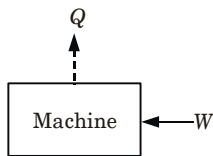

Fig. 1.28.2. The converse of PMM1.
- The converse of the above statement is also true, i.e., there can be no machine which would continuously consume work without some other form of energy appearing simultaneously (Fig. 1.28.2).